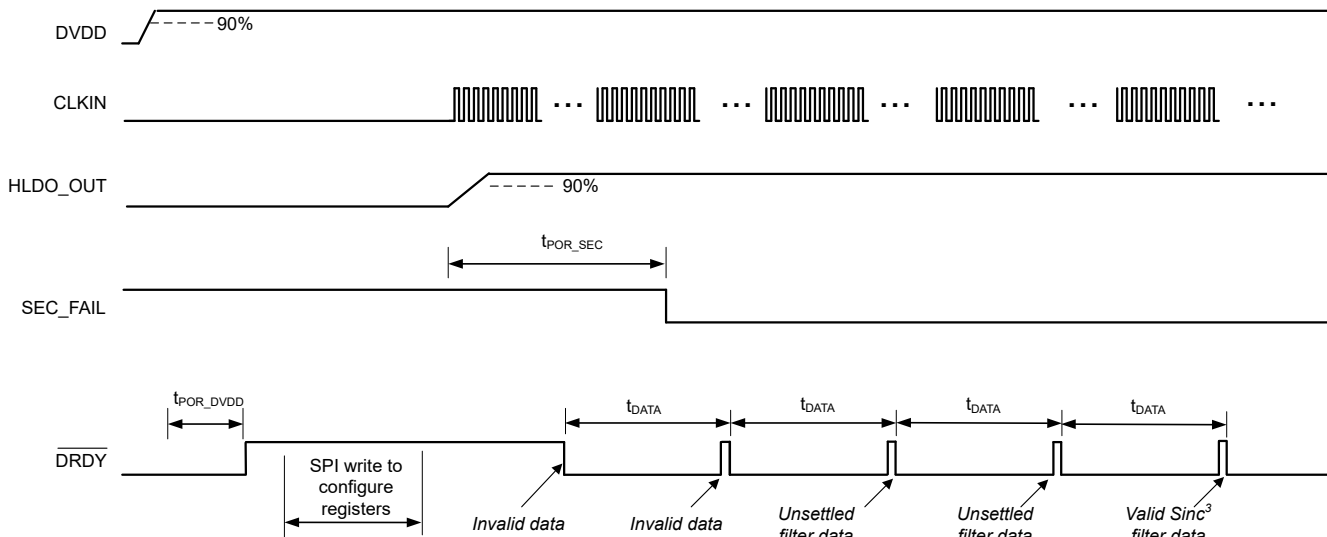
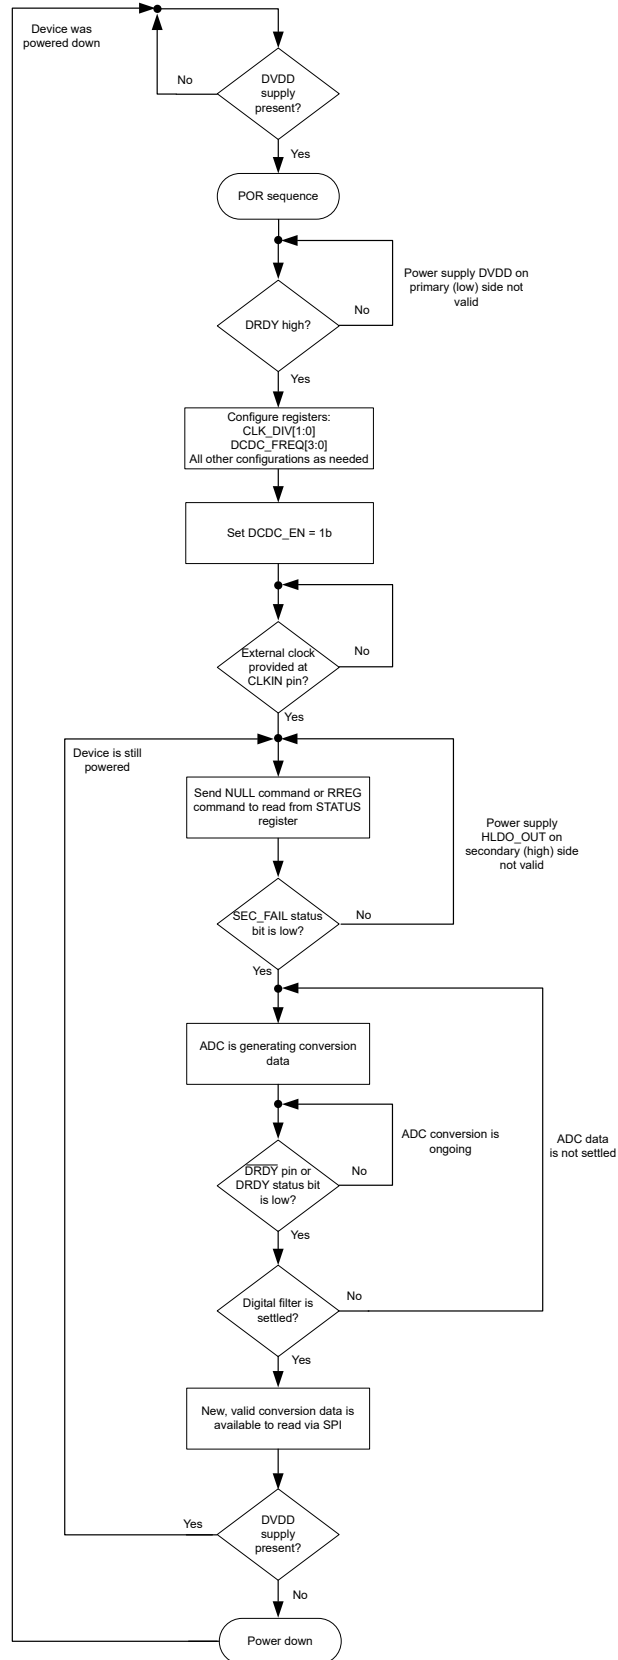

Figure 8-13. Start-Up Behavior at Power-Up and Settling Times, OSR = 1024
Figure 8-14. Flow Diagram for Start-Up Procedure at Power-Up
A recommended procedure for powering up the AMC131M01 is described in this section. Figure 8-13 depicts a timing diagram for the device behavior when this recommended sequence is used. Figure 8-14 provides a flow diagram that displays the recommended sequence in a graphical form.
- The high-to-low transition of $\overline{\text{DRDY}}$ indicates that new conversion data are available. As given in Figure 8-13, ADC data are only valid if the SEC_FAIL reads 0b during the conversion period. The first two conversion results shown in Figure 8-13, represent invalid data.
- When the ADC generates valid data, the digital filter must settle, as described in the *SINC³ and SINC³ + SINC¹ Filter* section. Two subsequent conversion results illustrated in Figure 8-13 are unsettled (assuming OSR equals 1024), and the last conversion result shown provides valid and settled data.
In Figure 8-13, $t_{\text{POR_SEC}}$ is the time from enabling the DC/DC converter to the first falling edge of the SEC_FAIL bit, which indicates that the secondary power supply at the HLDO_OUT pin is stable. $t_{\text{POR_DVDD}}$ is the time from DVDD supply at 90% to $\overline{\text{DRDY}}$ first rising edge.